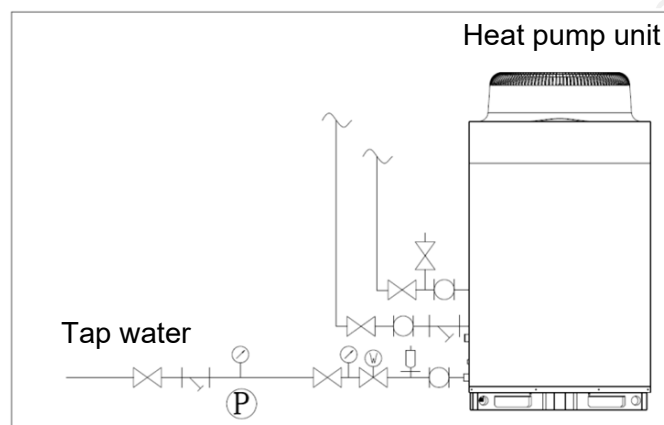

Figure 5.3 Tap water supply – cold water inlet pipe
- ① The water supply pressure is between 0.15 and 0.45 MPa (P in Figure 5.3, at the main cold water inlet pipe and in front of the pressure maintaining valve).
- ② The fluctuation range of water supply pressure does not exceed 0.1 MPa/min.
- ③ In "open valve" mode, the pressure drop at the water side of unit is not less than 180 kPa.